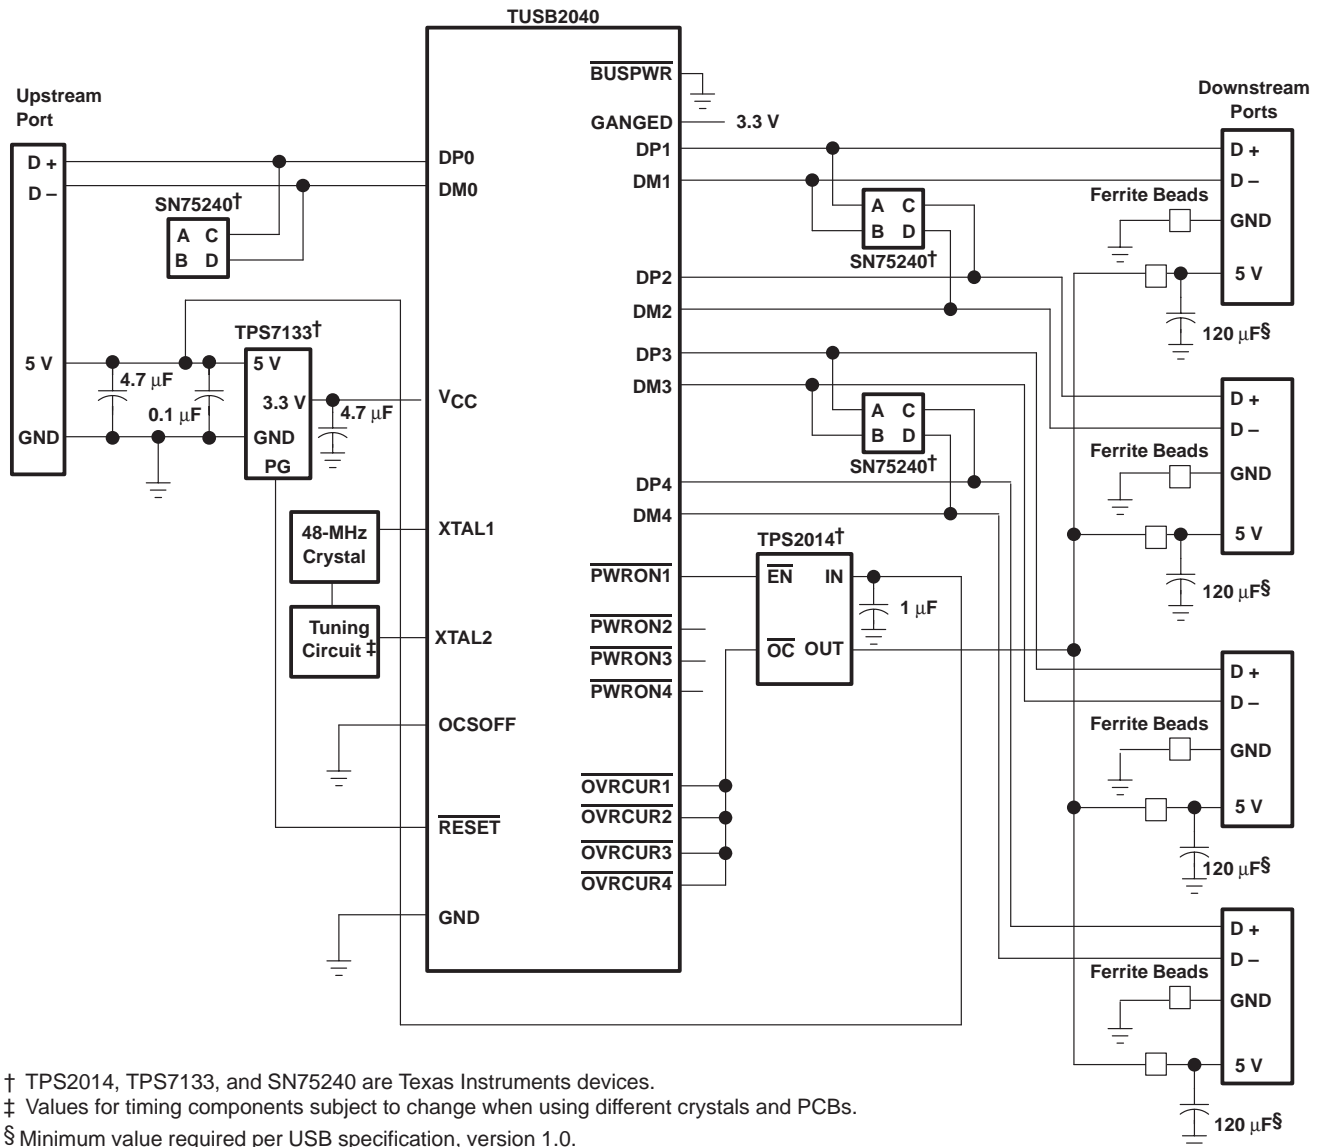

Figure 8. TUSB2040 Bus-Powered Hub, Ganged Port Power Management Application
Using a combination of the $\overline{\text{BUSPWR}}$ and GANGED inputs, the TUSB2140 supports four modes of power management: Bus-Powered hub with either individual port power management or ganged port power management and the Self-Powered hub with either individual port power management or ganged port power management. Texas Instruments supplies the complete hub solution because we offer this TUSB2040, the TUSB2070 (7-port) and the TUSB2140 (4-port with I²C) hubs along with the power management chips needed to implement a fully USB Specification 1.0 compliant system. See Figure 8, 9 and 10 for example configurations.
A bus-powered TUSB2040 supports up to four downstream ports (operation shown in Figure 8) and is capable of supplying 100 mA of current for low-power device class functions to each downstream port. Bus-powered hubs must implement power switching. Ganged power management (see Figure 8) utilizes the TPS2014 power switch device and provides overcurrent protection for downstream ports. Individual SN75240 transient suppressors reduce in-rush current and voltage spikes. The TPS7133 low-dropout voltage regulator provides a Power Good (PG) signal for reset at power-up. OVR_{CUR1} – OVR_{CUR4} inputs may be tied together for ganged mode operation.